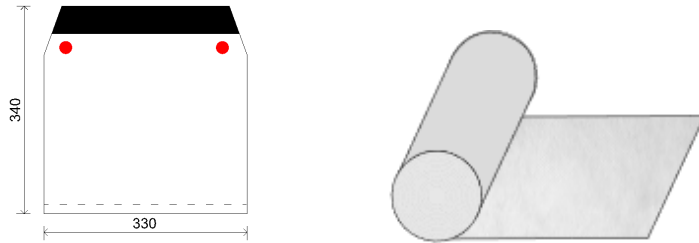
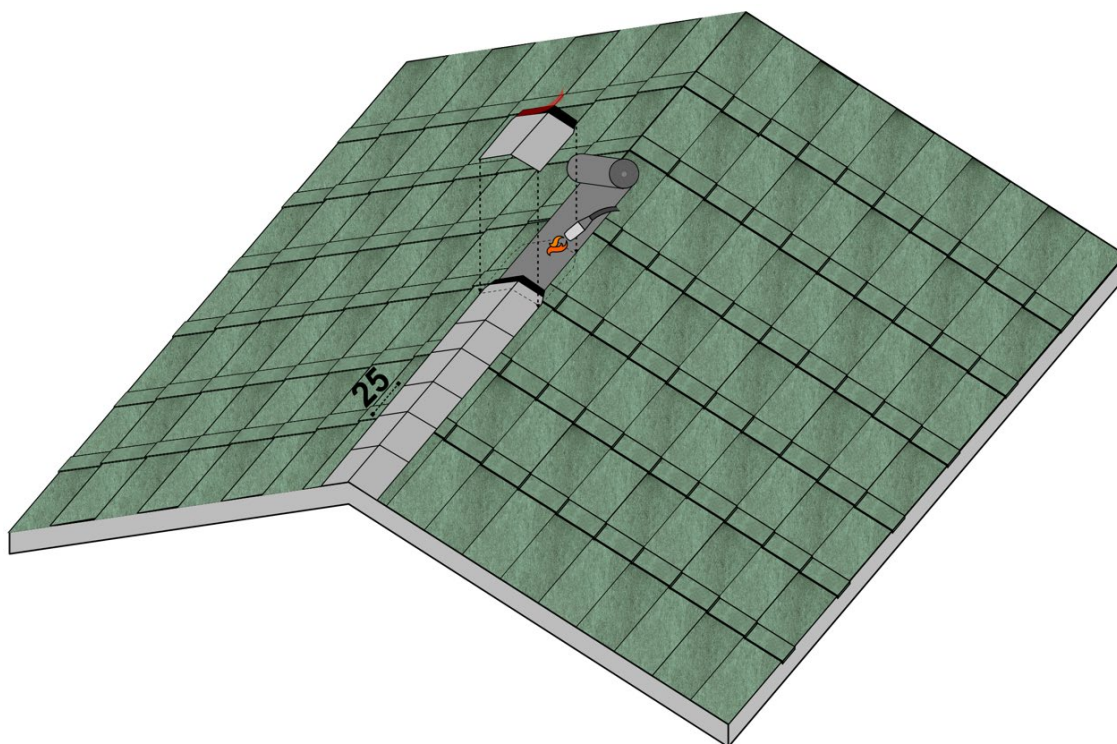

Fig. 13 - Ultimetal HD Ridge box contents
Fig. 24 - Ridge elements installation
- For the execution of the ridge, take the Ultimetel HD Ridge box and pick up the Top Roll Colmo SA and the ridge elements, which are already cut and shaped, contained within it - Fig. 13.
- For the ridge installation, take the Ultimetal HD Ridge Box containing the pre-cut and shaped ridge elements – see Fig. 13. Note that, in this case, the roll of Top Roll Colmo SA contained in the box will not be used. Instead, apply a strip of Safety EPP bituminous membrane with a torch to the ridge – see Fig. 24.
- Install the prepared ridge elements, securing them to the underlying membrane with the torch flame, always heating the membrane and not the shingle element. Continue installing the remaining ridge elements in sequence, leaving an exposed section of 25 cm between each element, as shown in Fig. 24.